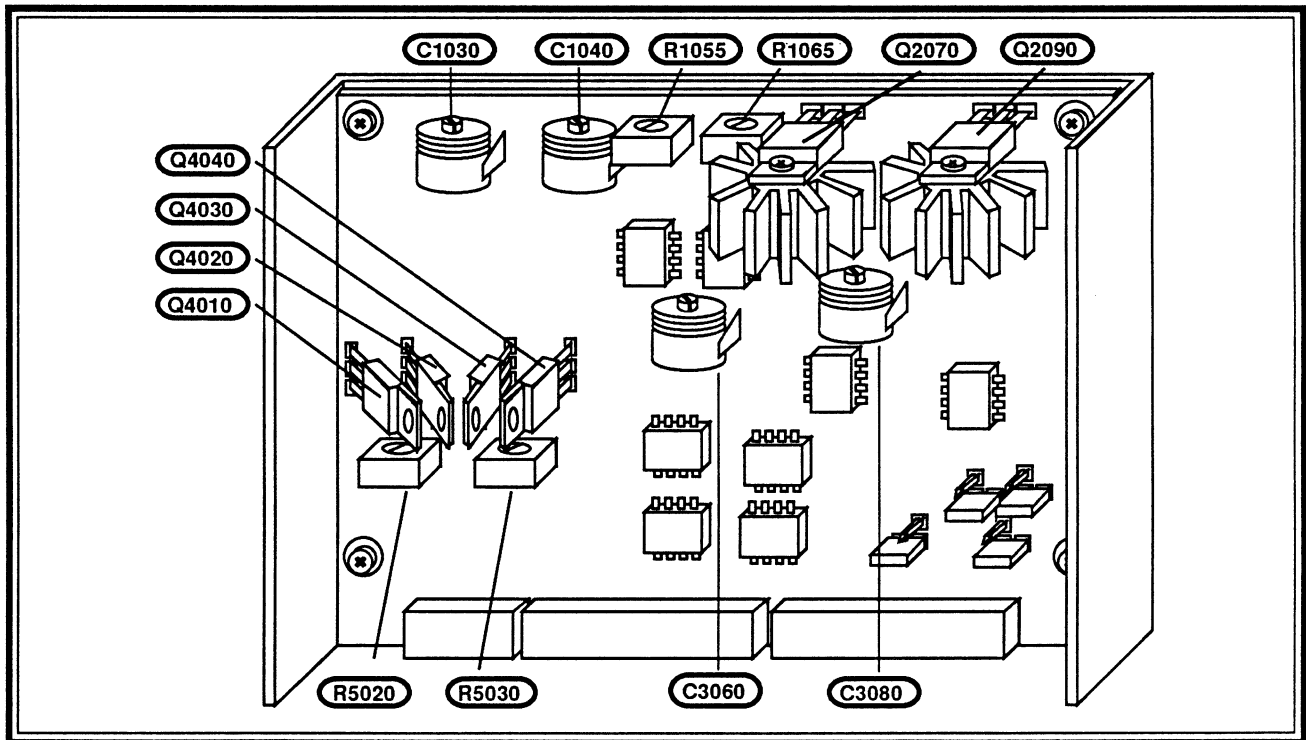

Figure 3 Deflection Amplifier Board with Adjustments
- k. Monitor the drains (metal tabs) of Q4040 or Q4030, on the Deflection Amplifier board, with the test oscilloscope. See Figure 3.
- n. Adjust C1030 (Figure 3) for the best response.